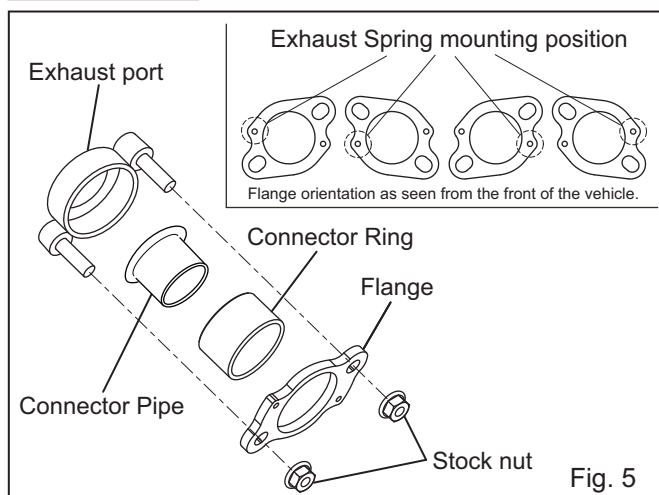

Fig. 5
- 6) Replace exhaust gaskets on all the exhaust ports with new ones and mount Flange, Connector Ring and Connector Pipe on each exhaust port with 2 of stock nut. (See Fig. 5 & 6) Tighten nut by hand only at this stage. Then hook 4 of Exhaust Spring on Flange.